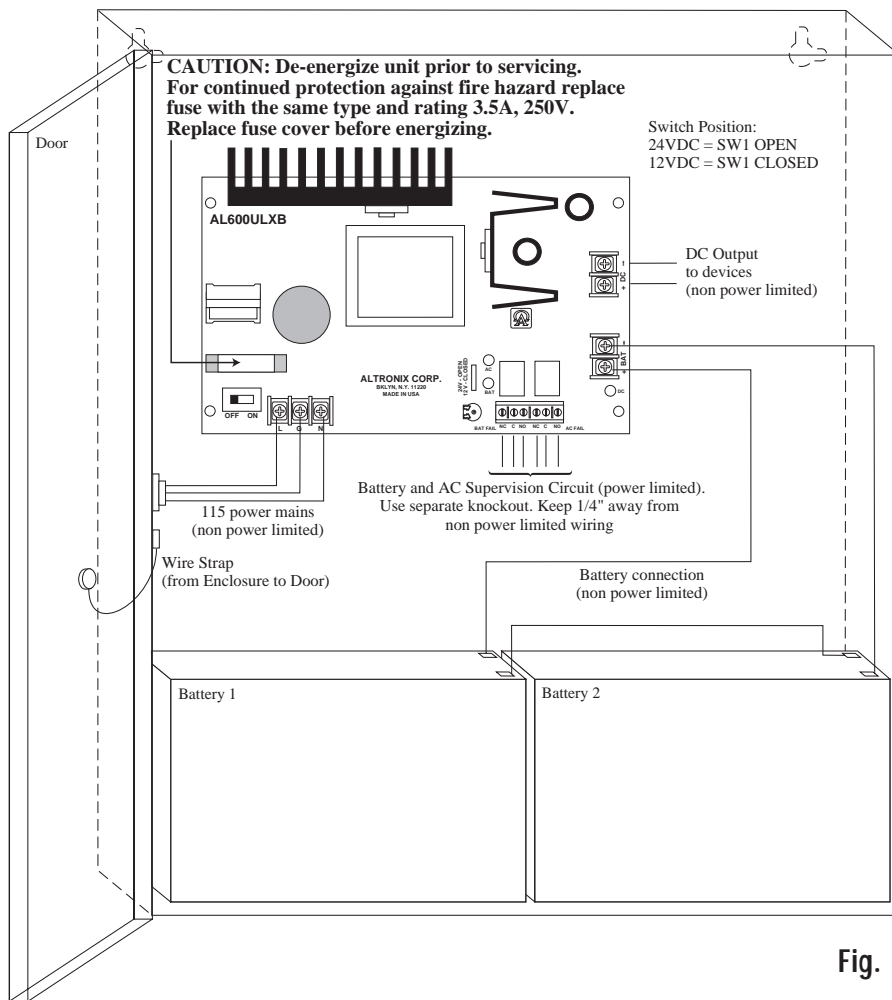

Fig. 1
- Set the AL600ULX to the desired DC output voltage by setting SW1 (Fig. 1) to the appropriate position (see power supply voltage output selections chart).
- Connect AC power (115VAC 50/60Hz) to terminals marked [L, G, N] (Fig. 1). Use 18 AWG or larger for all power connections (Battery, AC input, DC output). Use 22 AWG to 18 AWG for power limited circuits (AC Fail/Low Battery reporting).
- Connect devices to be powered to terminals marked [-DC +] (Fig. 1). **Note:** It is good operating practice to measure and verify output voltage before connecting devices to ensure proper operation of equipment. ***Note:** Power switch is used to turn off DC output voltage (However if battery is connected, its voltage will appear on the output). It disconnects the L (HOT) terminal from the rest of the board. When servicing the unit, AC mains should be removed.
Connect battery to terminals marked [-BAT +] (Fig. 1). Use two (2) 12VDC batteries connected in series for 24VDC operation (battery leads included).
- It is required to connect appropriate signaling notification devices to AC FAIL & BAT FAIL (Fig. 1) supervisory relay outputs. Use 22AWG to 18AWG wires. AC FAIL will report in 5 minutes. To delay report 6 hours cut "AC delay" jumper.